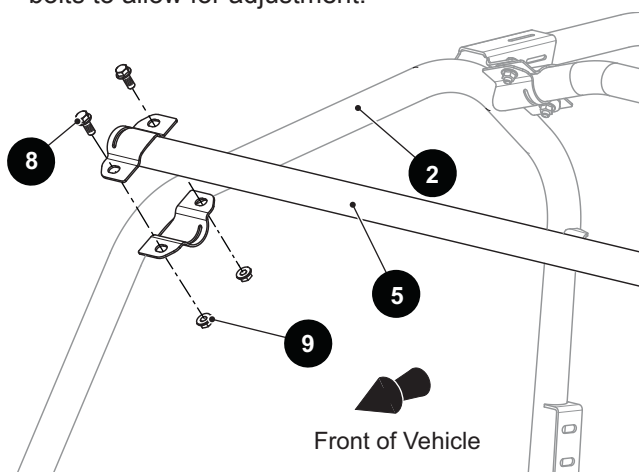

Fig. 6 Front Cross-tube
- Position the cross-tube (5) onto the top mounting brackets of the driver and passenger side ROPS tubes (Ref. Fig. 6).
- Align the holes of both mounting brackets and secure with bolts (8) and lock nuts (9). Finger tighten bolts to allow for adjustment.